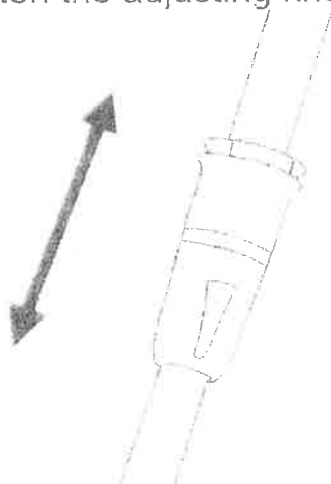

Fig.6
8.2 Adjust the telescopic length (Fig.6)